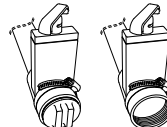

Figure 13.2f
3. Unscrew drain valve cap, Figure 13.2f. Place the cap aside.